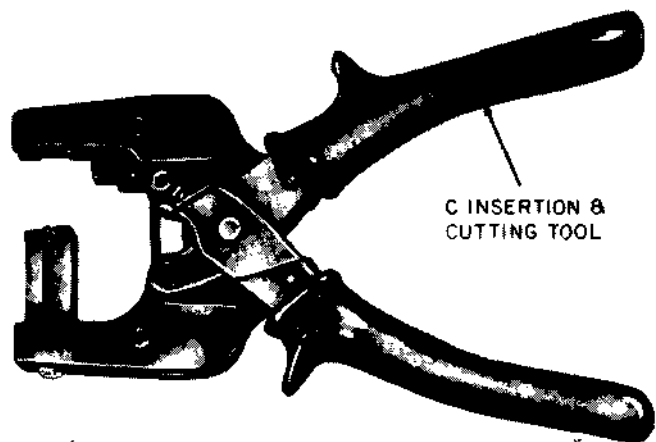

Fig. 25—AT-8764 Insertion Cutter Tool
2.27 AT-8764: The AT-8764 insertion cutter tool (Fig. 25) is used in splicing, one pair at a time, in both the old and new 710 connectors.